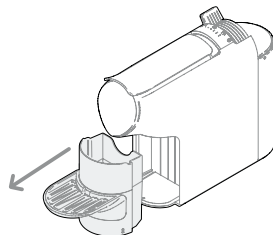

Fig. 11: Used capsule container full
- After the end of the brewing, open the lever and the capsule will drop to the used capsules container (Fig. 11).
- After brewing 10 extractions the used capsule container is full. Take it out and empty it (Fig. 11). Clean the used capsule container the cup tray and the drip tray (Fig. 1) with water and a mild non-abrasive cleaning agent.